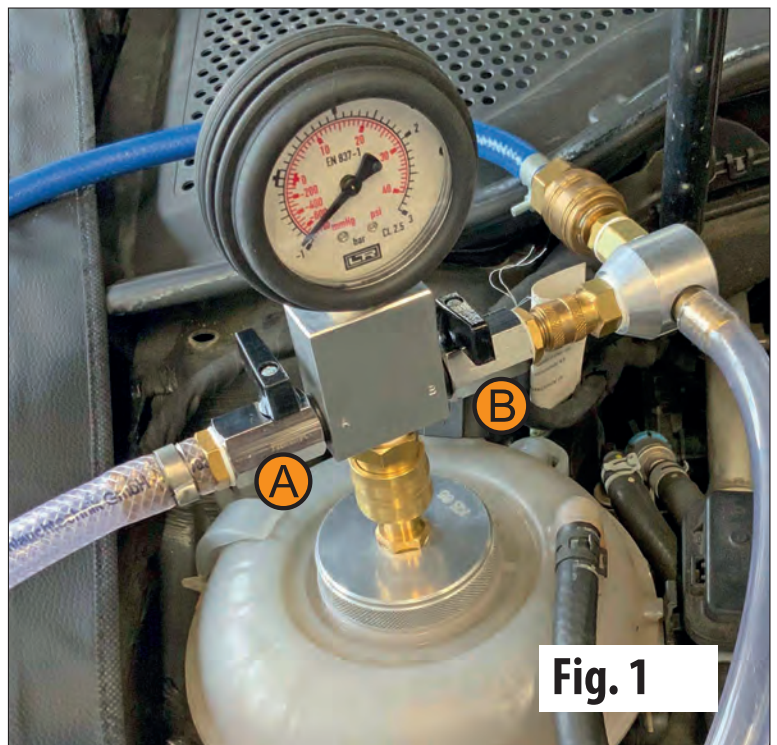

Fig. 1
- Connect the drain hose (8) to the container (22.1) and the drain hose (11) to the side of shut-off valve (B) on the valve block (9).
- Connect the battery clamps (20) to the vehicle battery; support the vehicle battery in accordance with the specifications from the vehicle manufacturer.
- Bleed the cooling system filling and flushing device. When doing so, make sure that shut-off valve (A) and (B) on the valve block (9) are closed.
- Switch on the pump (18), open shut-off valve (A) on the valve block (9), briefly open shut-off valve (B) on the valve block (9) until liquid arrives at the valve block.
- Close shut-off valves (A) and (B).
- Connect the valve block (9) to the test adapter on the expansion tank.
- Disconnect the drain hose (11) from the valve block (9).
- Disconnect the venturi nozzle (10) from the valve block (9).
- Make sure that shut-off valve (A) and (B) on the valve block (9) are closed (**Fig. 1**).